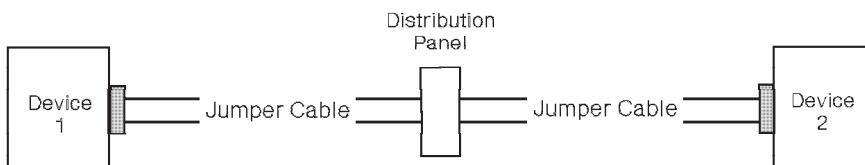

Figure 2-2. Link Configuration 2 Consisting of 2 Jumper Cables and 1 Distribution Panel
- Two jumper cables connected through 1 distribution panel (Figure 2-2)